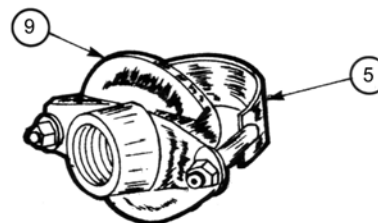

Figure 5
5. Position the saddle fitting and "U" clamp (Figure 5) on the outside of the casing over